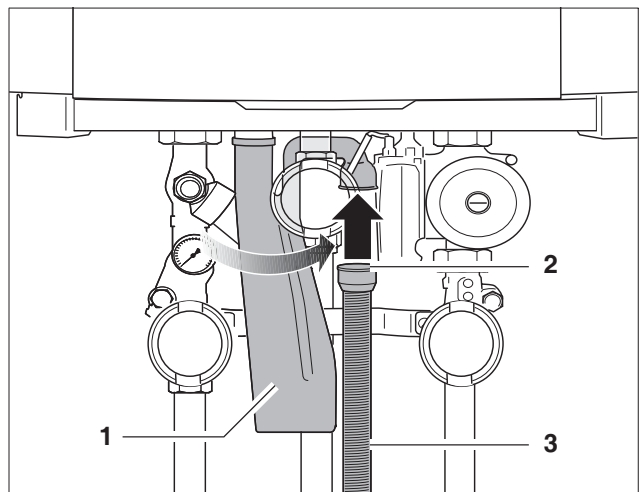

fig. 18 Installing the condensate trap hose
- Connect the condensate trap hose (fig. 18, **item 3**) and the rubber sleeve (fig. 18, **item 2**) to the condensate trap (fig. 18, **item 1**).